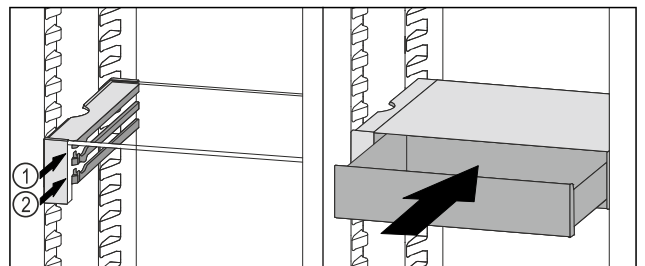

Fig. 204
- ▶ Place the VarioSafe drawer behind the stoppers on desired rib Fig. 204 (1) or Fig. 204 (2).